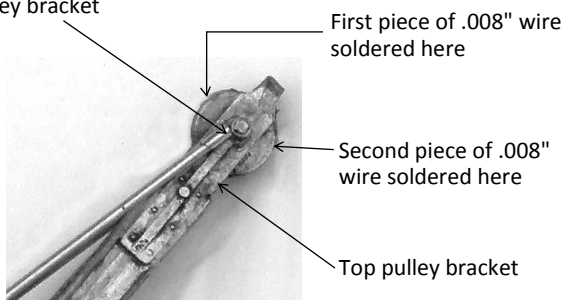
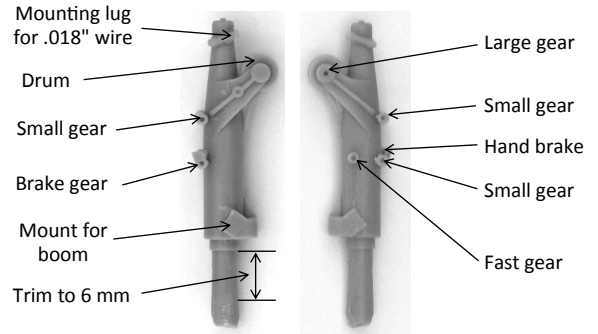

Figure 3.
Figure 4.
7. Cut the remaining brass castings from the sprue and file off any dags. Glue the three larger gear wheels and one of the small gears to the pillar as per Figure 3. Bend a winding handle from .010" brass wire and solder it into the hole in the end of one of the small gears. Glue this and the other small gear to their mounting as shown in Figure 4.
8. Make a 90° bend in the etched brake handle about .5 mm from the square end. Glue this to the brake bracket as per Figure 4.